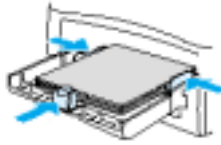

Figure 15. Closing the Media Guides
11. Slide the side guides and front guide until the guides are flush with the media. Figure 15 shows the location of the media guides.